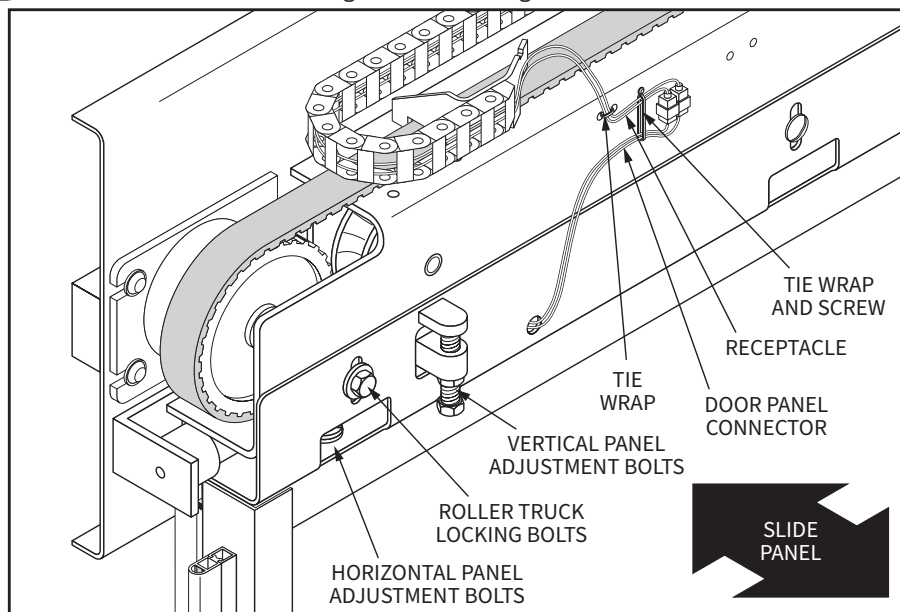

Figure 9: Adjusting Bolt Locations
2. After backing off roller truck bolts, adjust the two vertical adjustment bolts to position the panel at the desired height. The panel gasket should have contact with floor for proper sealing. Tighten the locking nuts to maintain height adjustment (Figure 9).
5. Connect plug from reversing edge on the door panel to its matching receptacle on the upper truck. Use supplied tie wrap to keep connectors from separating and secure to upper truck with supplied screw (Figure 9).